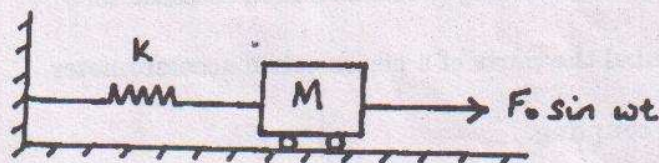

Fig. 2
- (b) (i) Refer Fig. 2. The mass  $M$  is subject to a periodic force as indicated. Obtain the general solution for the displacement of the mass. (10)
- (ii) With the example of the system shown in Fig. 2, discuss resonance. Sketch the frequency response curve of the system. If a viscous damping unit is now added to the system, how would it change the frequency response of the system? (6)